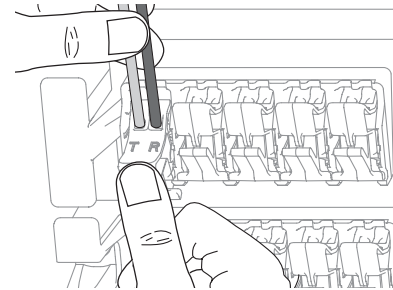

Figure 14
3. Insert conductors into ports (Figure 14). Note ports are identified "T" (for Tip) and "R" (for Ring). Conductors should insert approximately 3/8" before bottoming out.